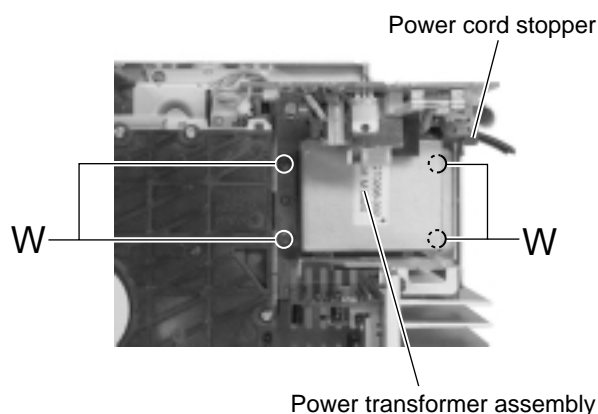

Fig.23
■ Removing the power transformer assembly (See Fig.23 and 24)